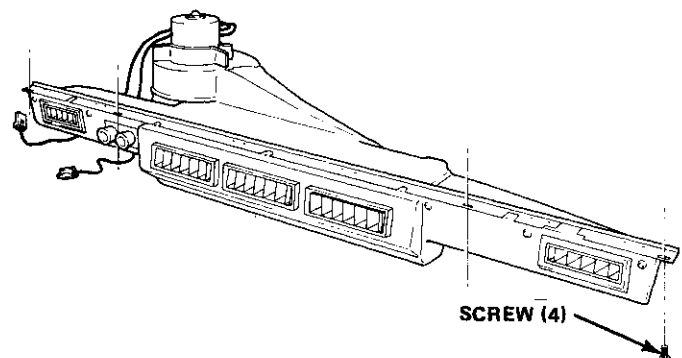

Fig. 3E-18 Evaporator Housing Mounting—CJ Models
- (1) Discharge system.
- (2) Disconnect inlet (suction) line at compressor.
- (3) Disconnect receiver/dryer-to-evaporator hose.
- (4) Remove hose clamps and dash grommet retaining screws.
- (5) Remove evaporator housing-to-instrument panel attaching screws and the evaporator housing-to-mounting bracket screw (fig. 3E-18).